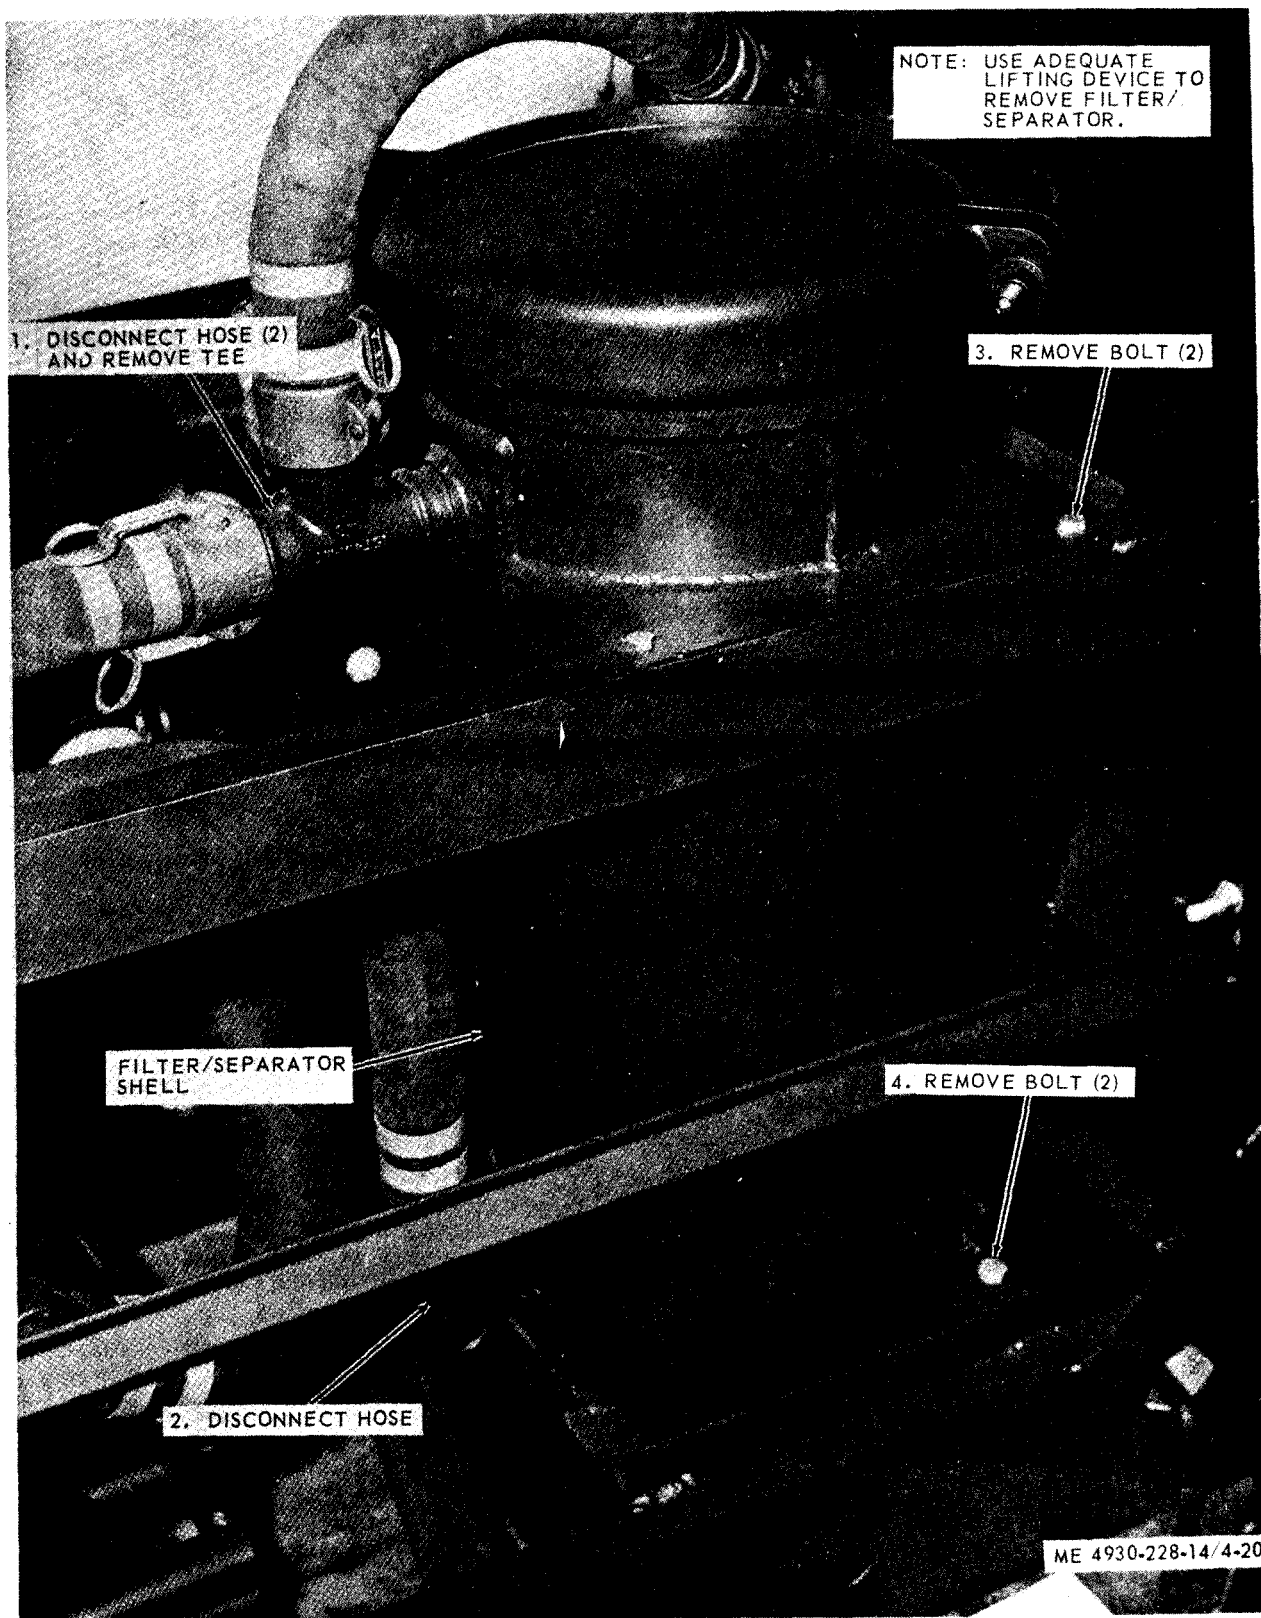

Figure 4-20. Filter / separator, removal.
- (1) Drain the filter / separator.
- (2) Refer to figure 4-20 and remove the filter / separator.
(1) Clean the filter separator and dry thoroughly.
(2) Inspect the filter/ separator for distortion, broken welds, dents, and other damage.
(3) Replace a defective filter/ separator.
c. Installation. Refer to figure 4-20 and install the filter / separator in reverse order of removal.